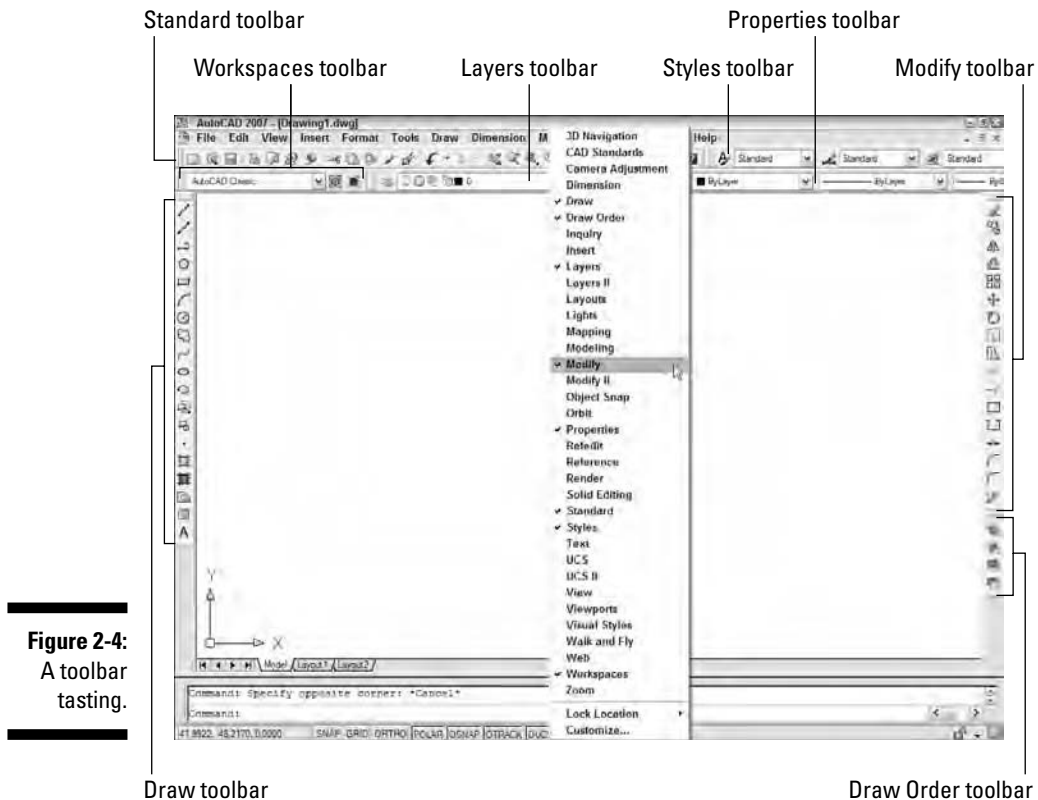

Figure 2-4:
As in other Windows programs, the toolbars in AutoCAD provide rapid access to the most commonly used AutoCAD commands. AutoCAD 2007 ships with toolbars in this default arrangement (as shown in Figure 2-4):
- ✔ To open or close toolbars, right-click any toolbar button and choose from the list of available toolbars, as shown in Figure 2-4.
The AutoCAD screen in Figure 2-4 shows the default toolbar arrangement, which works fine for most people. Feel free to close the Draw Order toolbar; you aren't likely to use its features frequently. You may want to turn on a couple of additional toolbars, such as Object Snap and Dimension, as you discover and make use of additional features. Throughout this book, we point out when a particular toolbar may be useful.